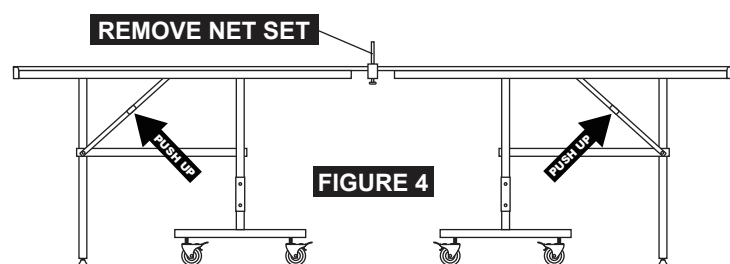

FIGURE 4
1. Remove the Net Set and push hinges up as shown in **FIGURE 4**.